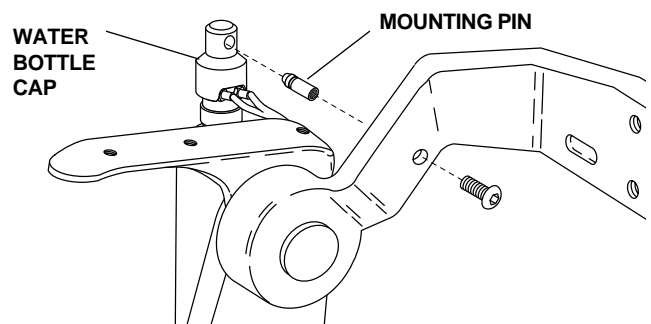

FIGURE 8
- Install the self-contained water bottle cap to the mounting pin (see Figure 8).